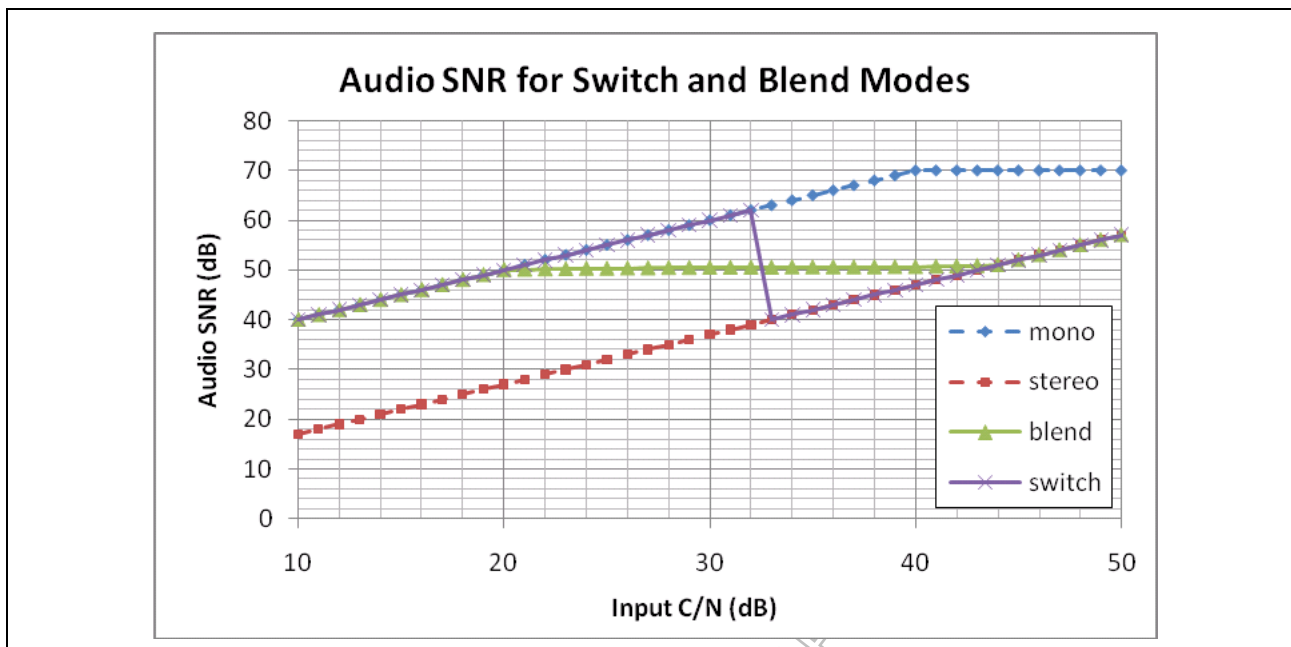

Figure 21: Example Blend/Switch Usage
- **Blend** — In this mode, fine control of stereo separation is used to achieve optimal audio quality over a wide range of input C/N. The amount of separation is fully programmable. In Figure 21, the separation is programmed to maintain a minimum 50 dB SNR across the blend range.